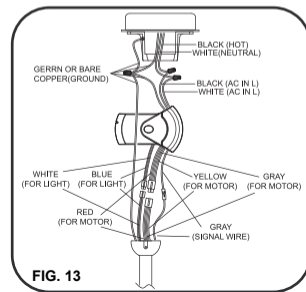

FIG. 13
Step 2. Receiver to House Supply Wires Electrical Connections: Connect the **WHITE** wire (Neutral) from the outlet box to the **WHITE** wire marked 'AC in N' from the receiver. Connect the **BLACK** wire (Hot) from the outlet box to the **BLACK** wire marked 'AC in L' from the receiver. Secure all wire connections with the plastic wire nuts provided. (FIG. 13)
Step 3. If your outlet box has a GROUND wire(Green or Bare Copper) connect this wire to the Hanger Ball and Hanger Bracket Ground wires. If your outlet box does not have a Ground Wire, then connect the Hanger Ball and Hanger Bracket Ground Wires together. Secure wire connection with the plastic wire connector provided. (FIG. 13)